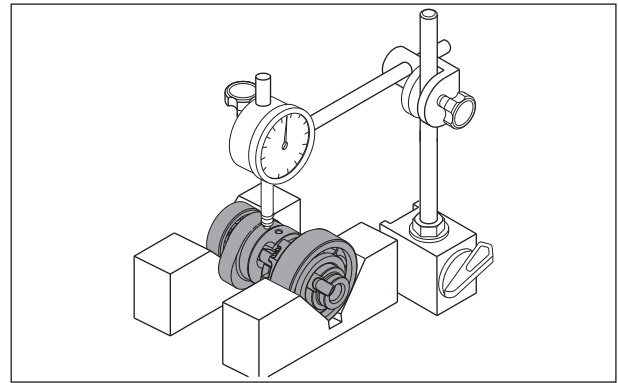

Fig. 3.63
- Measure the runout of the camshaft with a dial gauge. Replace the camshaft with a new one if the runout exceeds the service limit. (Fig. 3.63)